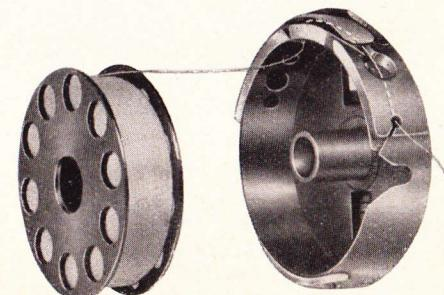

fig. 9
1. Hold the bobbin so that the thread on top leads from the left to the right (clockwise) as indicated in illustration Fig. 9.
2. Insert the bobbin into the bobbin case, pull the thread into the slot of the bobbin case and then draw it under the tension spring, as shown in Fig. 9. Leave about four inches of free thread hanging from the bobbin case.